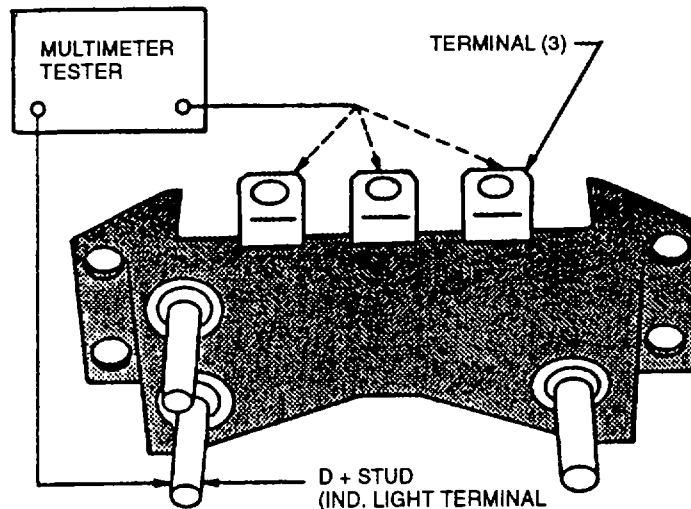

FIGURE 3-9. Testing Diode-Trio
- b. Set multimeter for ohms and check diode-trio assembly (refer to FIGURE 3-9) by noting multimeter indications between D+ stud and each of stator terminals. Reverse multimeter leads, repeat checks and note indications. If readings are the same in both directions for any diode, replace entire diode-trio assembly. A good diode will show a high indication in one direction and a low indication in the other.